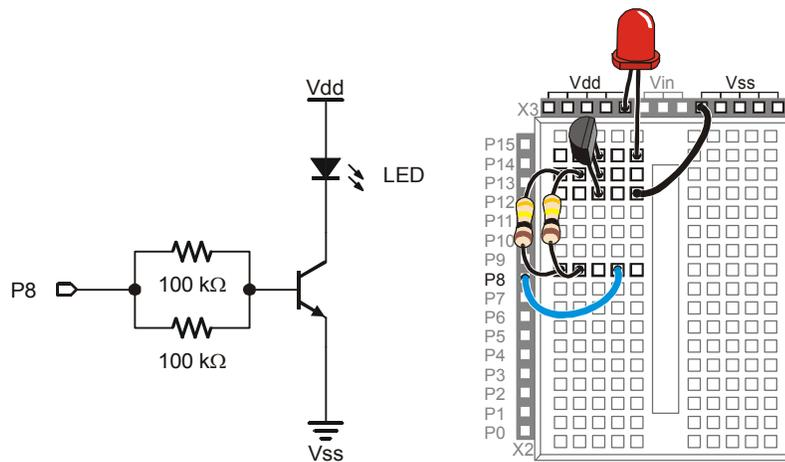

Figure 9-4
If all you want to do is switch a transistor on and off, you can use the circuit shown in Figure 9-4. When the BASIC Stamp sends a high signal to this circuit, it will make it so that the transistor conducts as much current as if you adjusted the potentiometer for maximum brightness. When the BASIC Stamp sends a low signal to this circuit, it will cause the transistor to stop conducting current, and the LED should emit no light.
- √ Build the circuit shown in Figure 9-4.